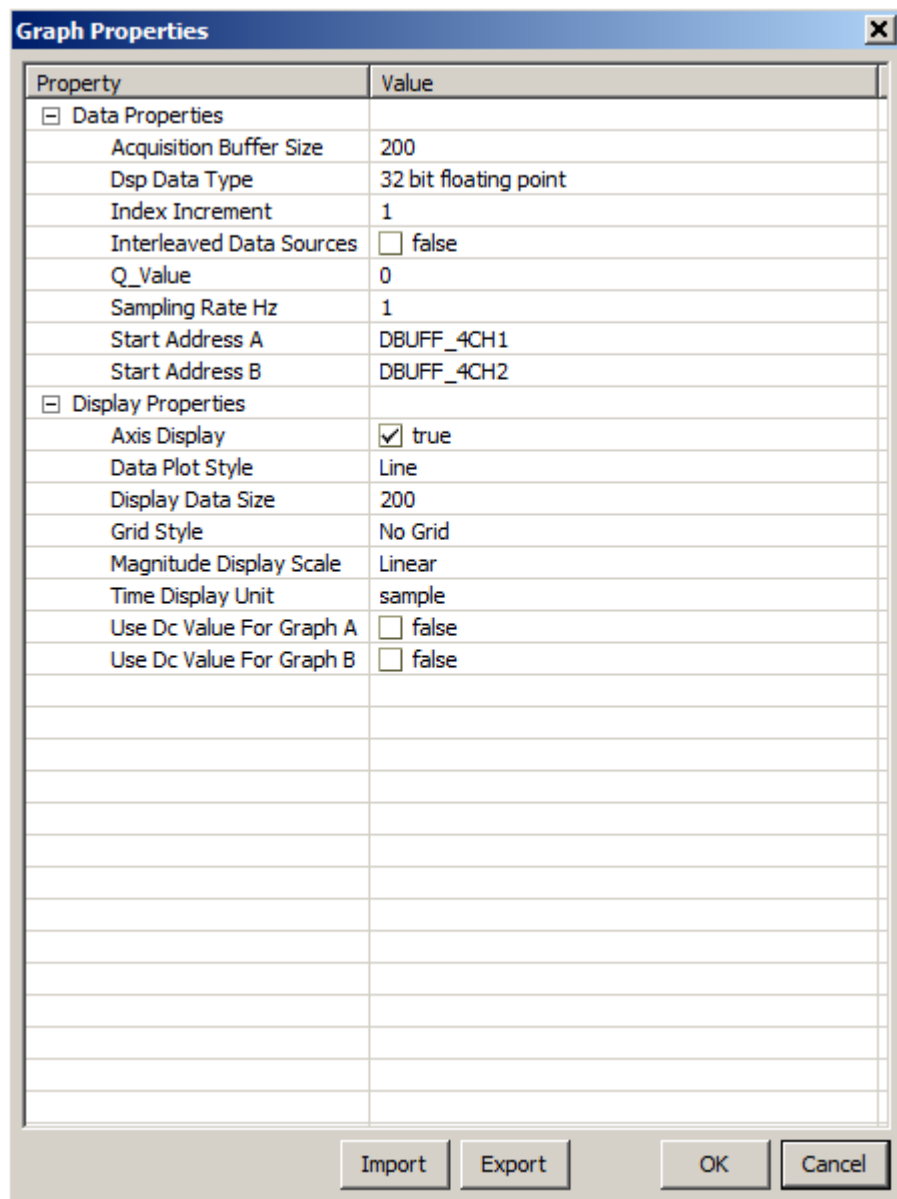

Figure 4-7. Graph Window Settings
The datalog buffers point to different system variables depending on the build level. The buffers let you inspect the variables and judge the performance of the system. Figure 4-7 shows open and setup time graph windows to plot the data log buffers.
- (f) Select Graph1.graphProp. (The Graph Properties window should look like Figure 4-7.)